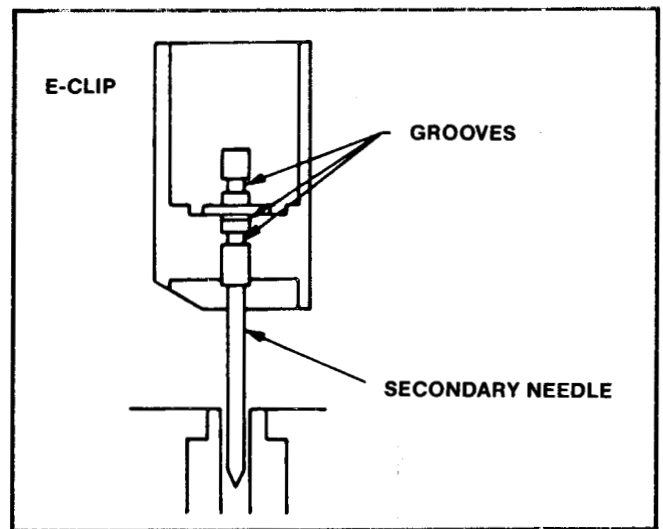

Figure 25
1. Install the E clip on the throttle valve. Nominal placement of the E clip is in the middle groove. The upper groove will yield a leaner mixture and the lower groove yields a richer mixture. See Figure 25.